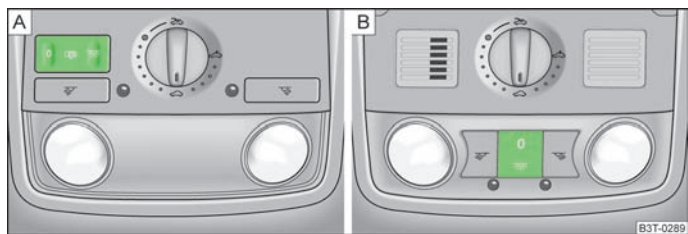

Fig. 39 Interior lights at the front
- Press the switch in the area of the symbol  » Fig. 39.
- Place the switch into the middle position. On vehicles without an interior monitor, the middle position is marked with the symbol  » Fig. 39 - A.